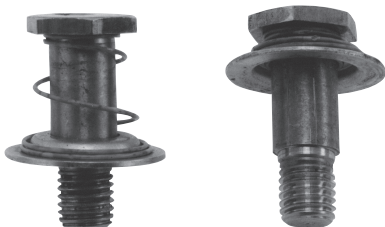

Figure 7
- Step 2 Compress conical spring against retainer ring by sliding detent spring toward head of pin. (All pins). (Figure 7)